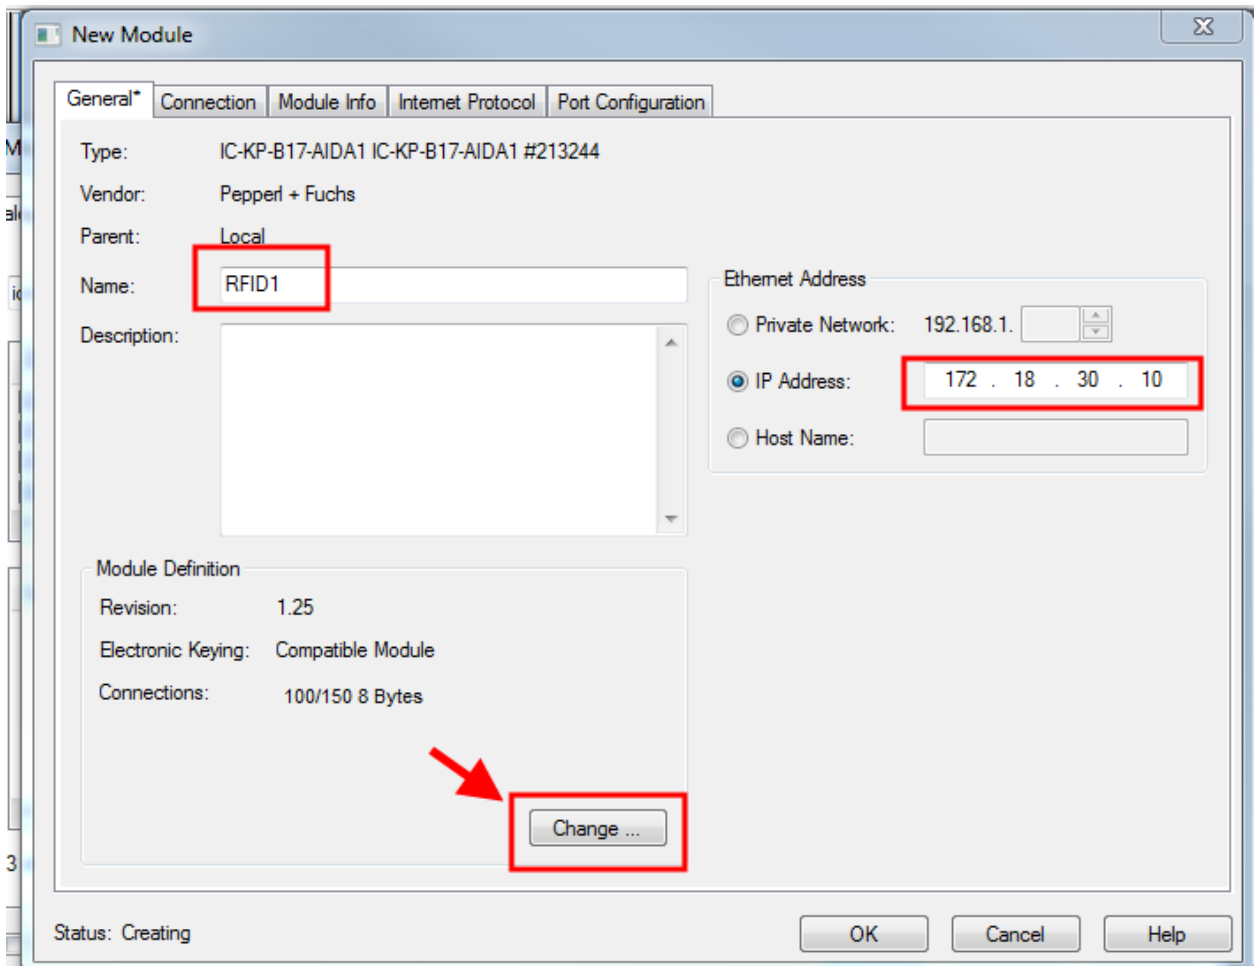

Figure 9: Change the IP address, name and change module definition
Step 4: Create a new name and configure the IP address of your RFID controller then click on “Change”. See Figure 9.